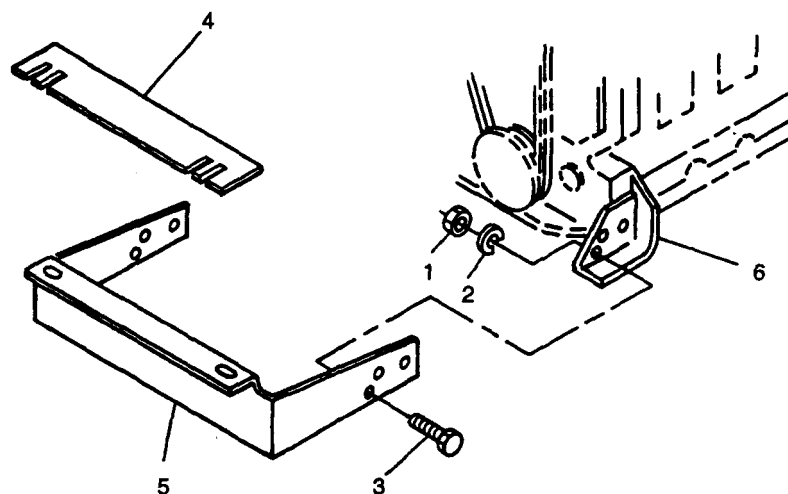

FIGURE 3-16. Radiator Mounting Bracket
- j. Install bolts (13), lockwashers (14), and washers (15), tightening bolts (13) slowly to ensure even and proper seating of generator housing lip to flywheel housing adapter (44). Torque bolts (13) to 25 ft-lbs (34 Nm).
- k. Secure engine mount brackets (31 ) to skid base with bolts (19), snubbing washers (18), washers (17), and nuts (16). Torque bolts (19) to 75 ft-lbs (102 Nm).
- l. Align scribe mark on generator drive disc and engine flywheel, and install bolts(11) and washers (12) securing generator drive disc to engine flywheel. Torque bolts (11) to 35 ft-lbs (47 Nm).” “
- m. Install screen/cover (10) on generator case with screws (8), washers (9), lockwashers (7), and nuts (6).
- n. Loosen nuts (45), adjust bolts (46) to obtain 0.5 inch (1 2.7 mm) minimum clearance with skid base. Torque nuts (45) to 150 ft-lbs (204 Nm).
- o. Install radiator mounting bracket (5, FIGURE 3-16) and shim(s) (4) with bolts (3), lockwashers (2), and nuts (1) to engine mount brackets (6).